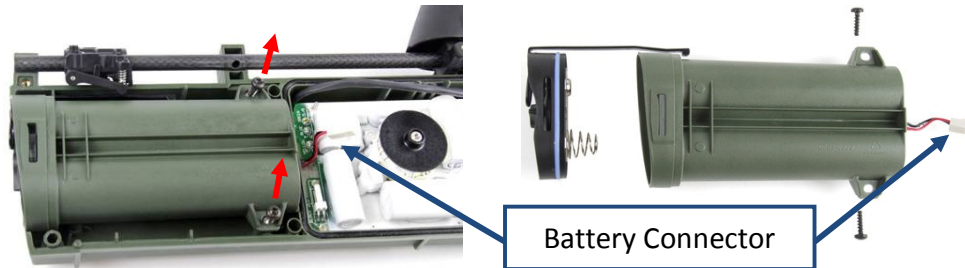
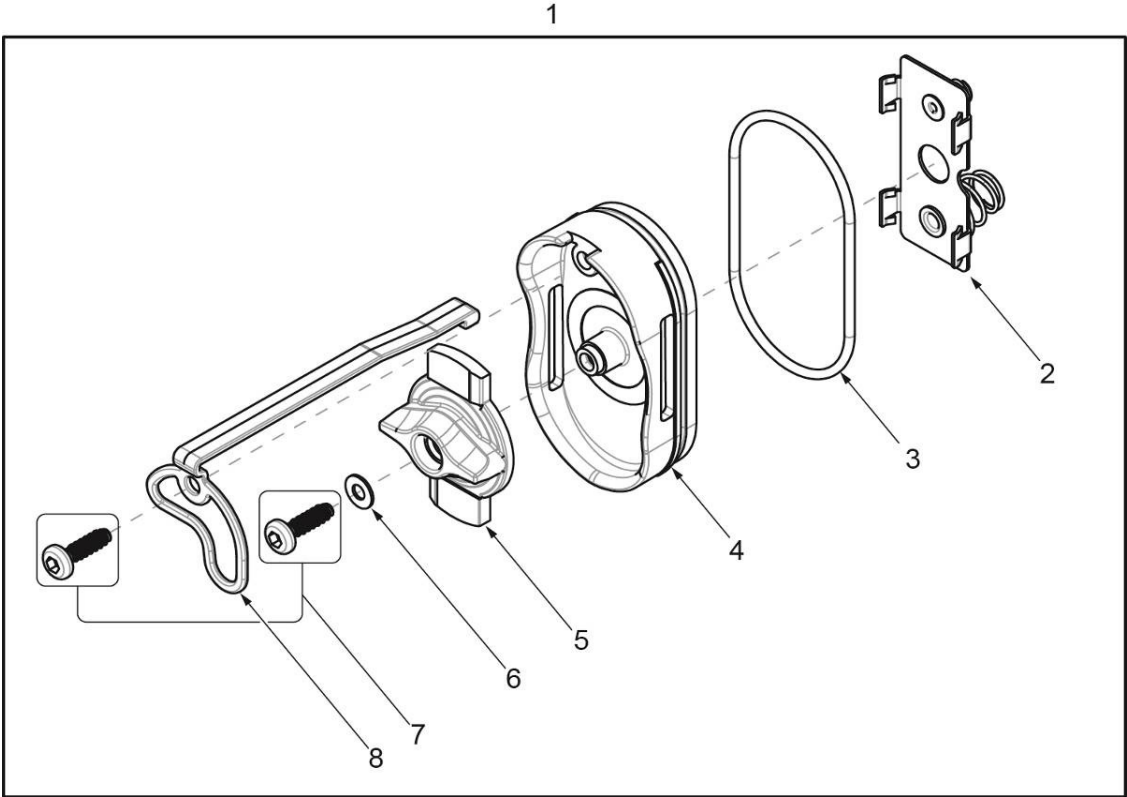

Figure 89: Replacing Battery Compartment
Figure 90: Battery Lid Kit
- Remove the two (2) screws (12mm) from the battery compartment. Figure 90.
- Slide the battery compartment into position. Figure 90.
- Insert the two (2) mounting screws (12mm).
a. The battery lid 3004-0052 is a line replaceable unit as shown in figure 89.